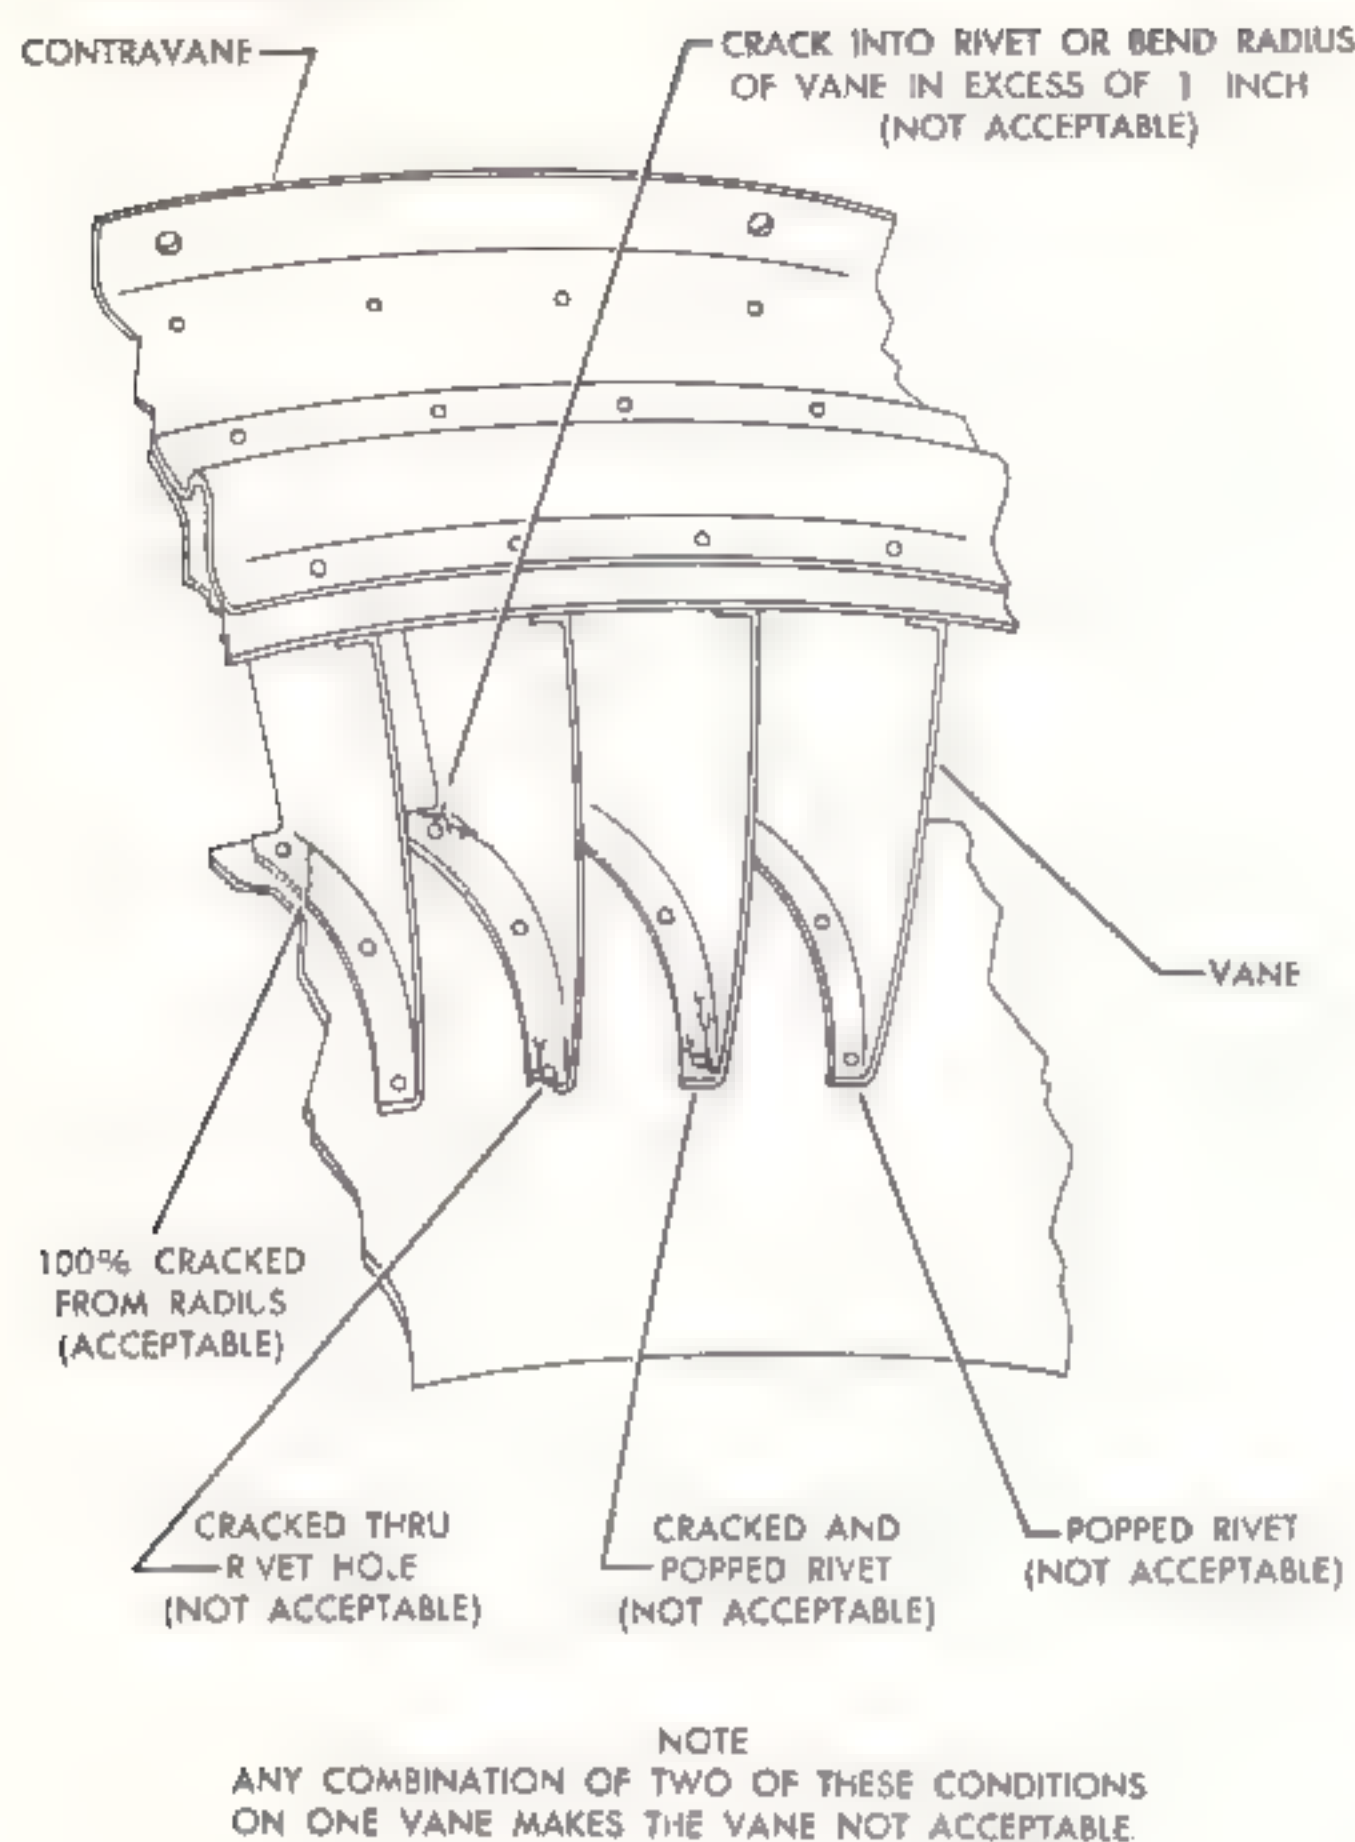

Figure 5-78. Inspection of contravane assembly vanes
(1) Inspect for cracks on inner ring radius of each vane. (See figure 5-78.)
(2) Inspect each vane at both tabs for loose or sheared rivets on inner ring radius of each vane. (See figure 5-78.)